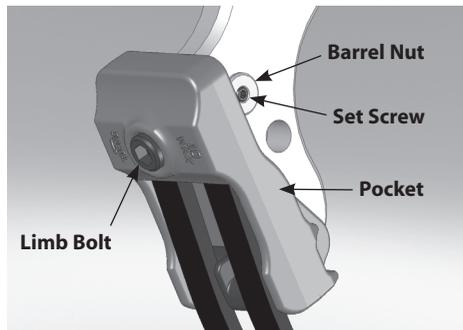

Figure 1
1. Remove the set screw from the barrel nut found under the pocket on the riser using a 3/32" allen wrench (**See Figure 1**).